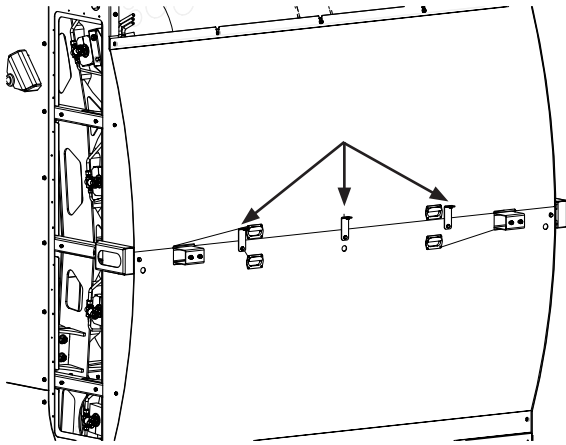

Figure 5-2
3. Remove and retain the L-shaped cover brackets and their fasteners (3) (Figure 5-2).